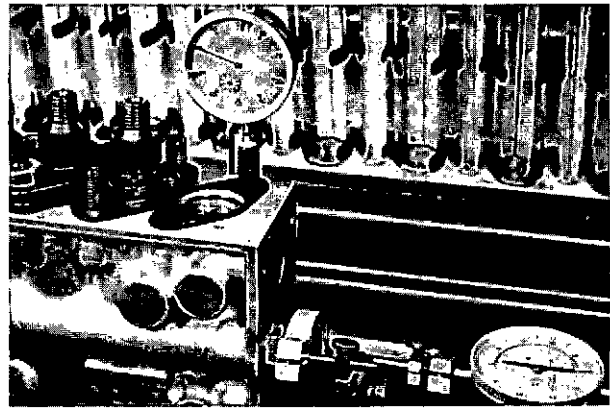

Fig. 57 Adjusting thickness of phasing shims.
- (v) Turn the pump camshaft manually in direction of rotation (clockwise, viewed from drive end) until oil *just* ceases to flow from the leak-off. The dial gauge reading at this point should be within the limits specified against 'Plunger lift to port closure' in Stage 'A' of the Test Schedule. Adjust, if necessary, by means of the phasing shims beneath the barrel/delivery valve assembly (fig. 57), reducing shim thickness to rectify late closure, and vice versa. Pumps with serial numbers prefixed '626' and later have two-piece shims which can be changed without removing the barrel/delivery valve assembly. Variation of shim thickness affects the dial reading by a corresponding amount. When correct, leave camshaft at No. 1 port closure and set the pointer of the graduated disc on the pump drive to a convenient figure, noting this for reference during phasing.